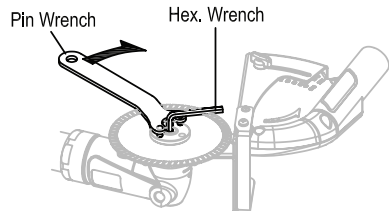

Figure 11
2. Tighten the Locknut using the Pin Wrench and Hex. Wrench until the blade is fully secure. (Figure 11)